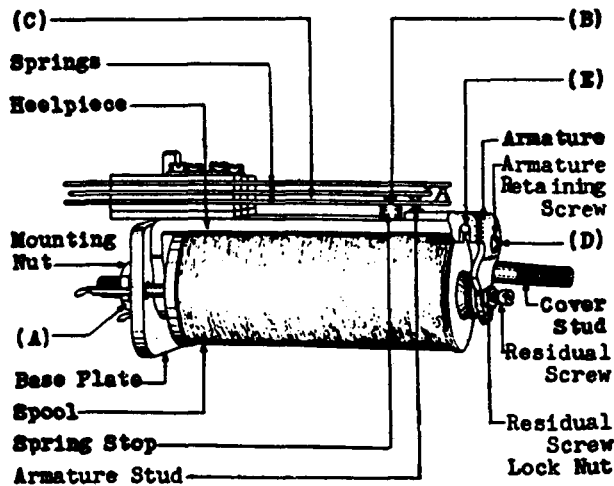

Fig. 3 - 207-type Relay
2.11 Relay Mounting: Fig. 3(A) — The spool shall be fastened securely to the heel-piece and the heel-piece shall be fastened securely to the base plate. The base plate shall be fastened securely to the mounting strip.
2.14 Stud and Stop Clearance: Fig 3(B) — The studs and stops shall not rub on the springs through which they pass when the armature is moved.
2.15 Separation Between Springs: Fig. 3(C) — There shall be a clearance between springs designed never to touch in the operated or unoperated position of the relay of
2.16 Tightness of Retaining Screws: Fig. 3(D) — The armature retaining screw shall be held securely in place.
2.17 Armature Movement: Fig. 3(E) — The armature shall move freely in its bearings.